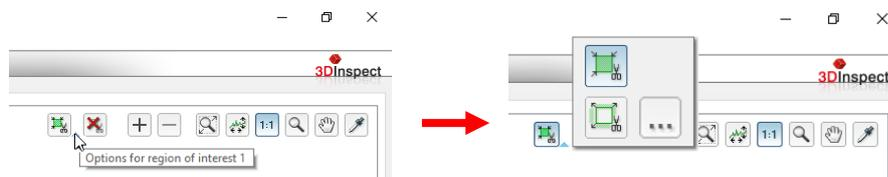

Fig. 3.67: "Region of interest options" context menu (Use points inside/outside the ROI)
- Open the "Region of interest options" context menu. Click on the corresponding icon to the right of the "Set region of interest" button (see Fig. 3.67).
- Select the desired mode from the context menu (see Fig. 3.67).
Open the context menu for the desired ROI and click on the "..." button (see above, Fig. 3.67) or press the right mouse button in the profile view.